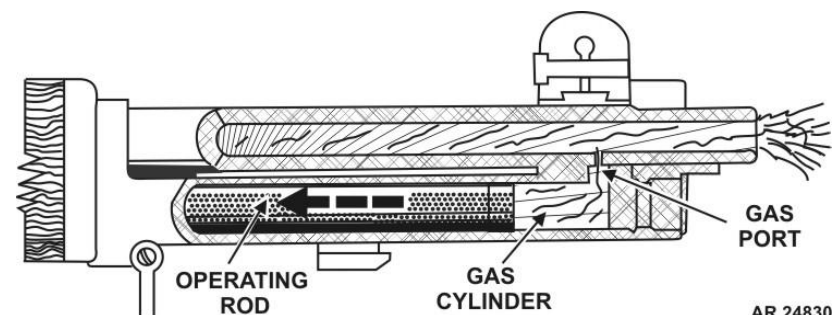

Figure 59. Action of gas
- 5) **Unlocking.** Unlocking occurs after the round is fired. Once the round is initiated, a small portion of the gas expands through the gas port into the gas cylinder, forcing the operating rod to the rear (fig 59). The camming surface inside the recess in the hump of the operating rod, in combination with the guideway in the side of the receiver, forces the operating lug of the bolt upward, disengaging the locking lugs from their recesses in the receiver. The bolt is thus unlocked and ready to be moved to the rear.